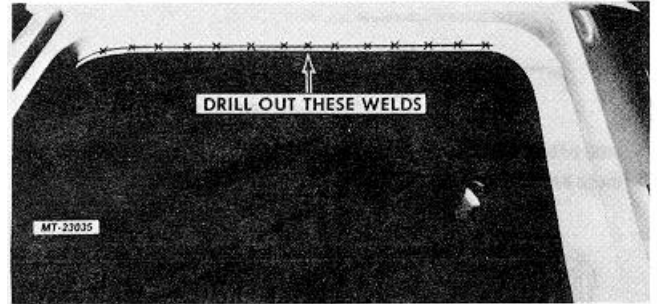

Fig. 46. Side Panel to Roof Inner Panel Spot Welds
10. Drill out fourteen spot welds along top of door opening and separate side panel from roof inner panel (Fig. 46).